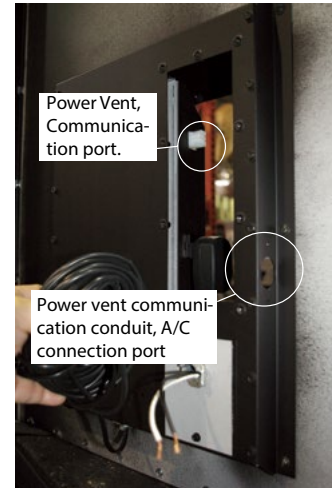

Figure 12b. Locate Power vent connections.
**Step 2.** Locate all the Power vent connections & ports, **Figure 12b**.